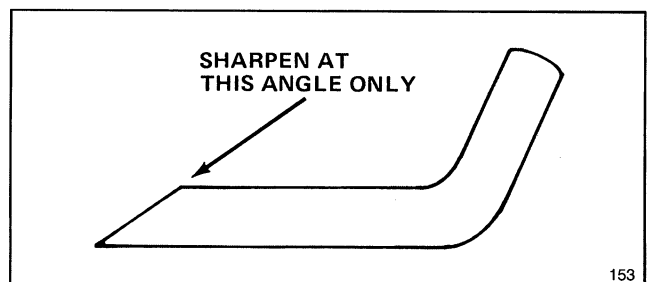

Figure 23
6. SHARPENING BLADE—Using a file, sharpen top side of blade and maintain original cutting angle (Fig. 23). The blade will remain balanced if same amount of material is removed from both cutting edges.